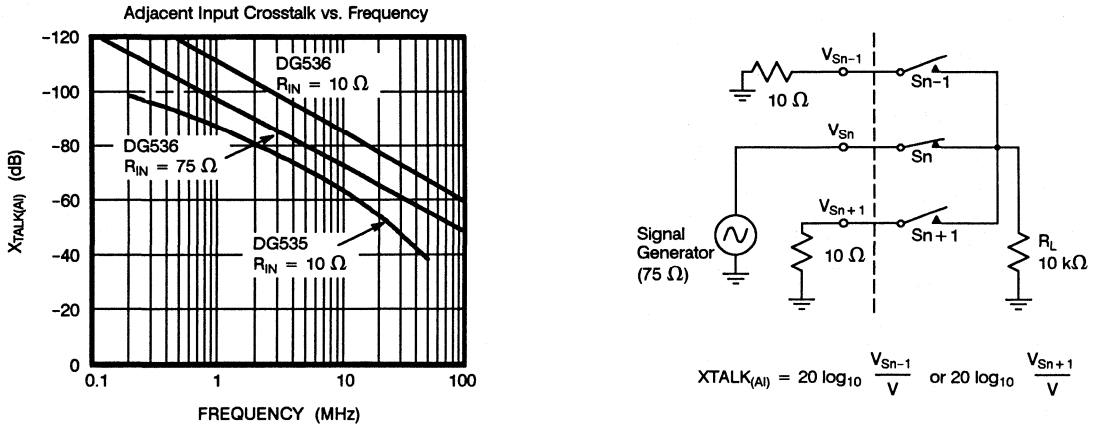

Figure 10. Adjacent Input Crosstalk vs. Frequency Graph and Test Circuit
4. **Adjacent input crosstalk** (Figure 10) is the ratio of the signal applied to a source (input) to the signal measured at any adjacent source. A low adjacent input crosstalk is required for video applications to avoid ghosting effects that may appear on video monitors or TV screens.